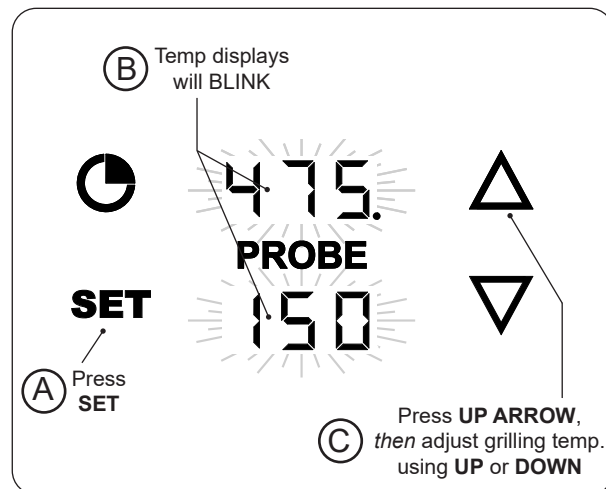

Fig. 40-1 Set grilling temp.
1. With the thermometer/thermostat **on**, press the **SET** button once. The grilling and probe displays will blink. (While blinking, either area can be selected to enter their settings.) See Fig. 40-1, A and B.
2. Press the **UP ARROW** to select the grilling temp settings, then use the up or down arrows to set the desired temp. (Fig. 40-1, C).